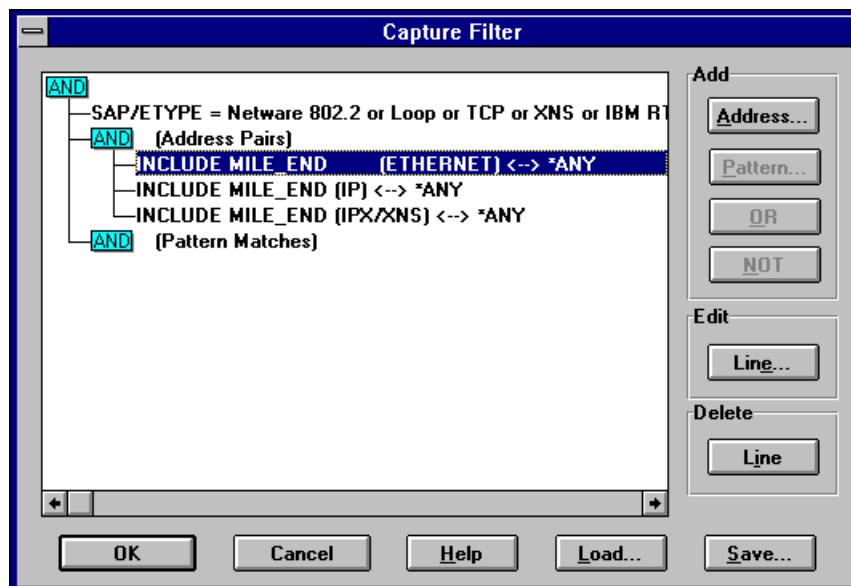

Figure 6-16. Configuring the Network Monitor to capture packets
5. Select the *Filter* icon from the Network Monitor window. The Capture Filter window is displayed as shown in Figure 6-16. This completely configures the monitor to capture all packets originating from the server in question.